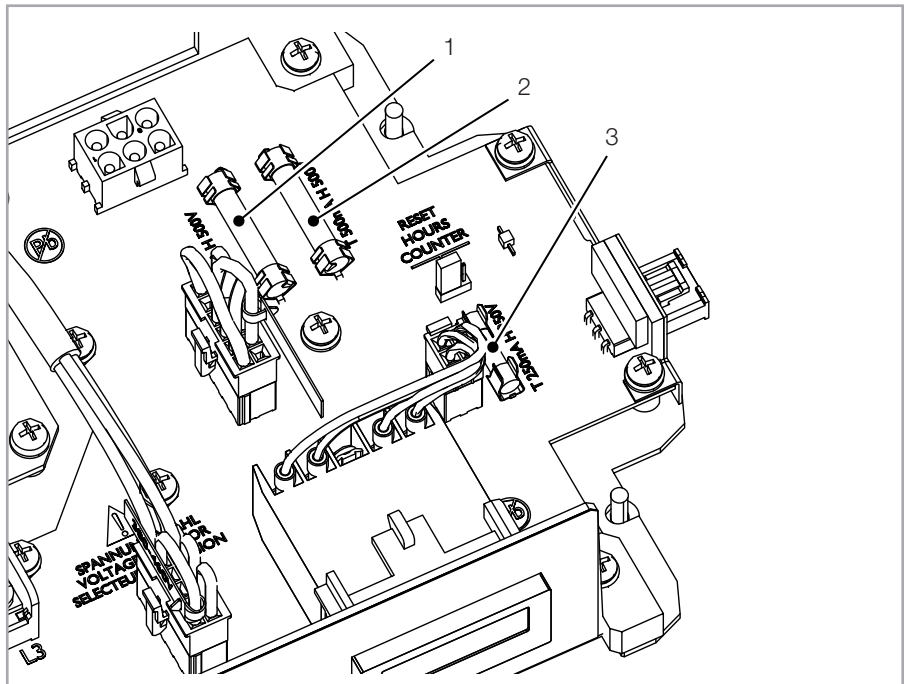

Figure 15 Fuse replacement
- Transformer fusing: FS1 & FS2 – T 500mA H 500V (item 1 & 2 in figure 15)
- Fan & Hours counter fusing: FS3 – T 250mA H 250V (item 3 in figure 15)